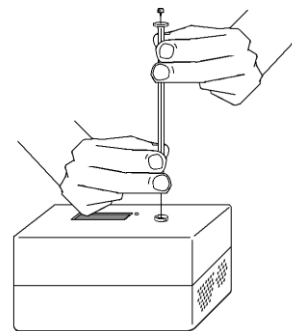

Figure 2
- b. To insert the needle of the syringe into the injection port of the Mini GC, hold the syringe with one hand and steady the needle with your other hand. Insert the needle into the injection port until the needle stop is fully seated, as shown in Figure 2. If the needle sticks, rotate it slightly while inserting. Do not force. Do not move the plunger yet.